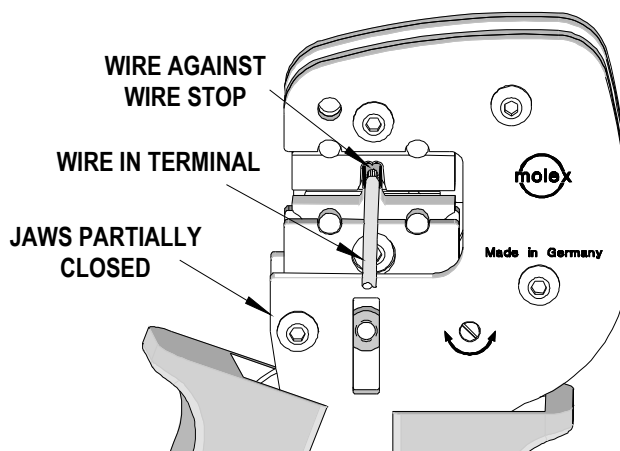

Figure 5
7. Gently touch the wire stop with the end of the wire. See Figure 5 and 6.